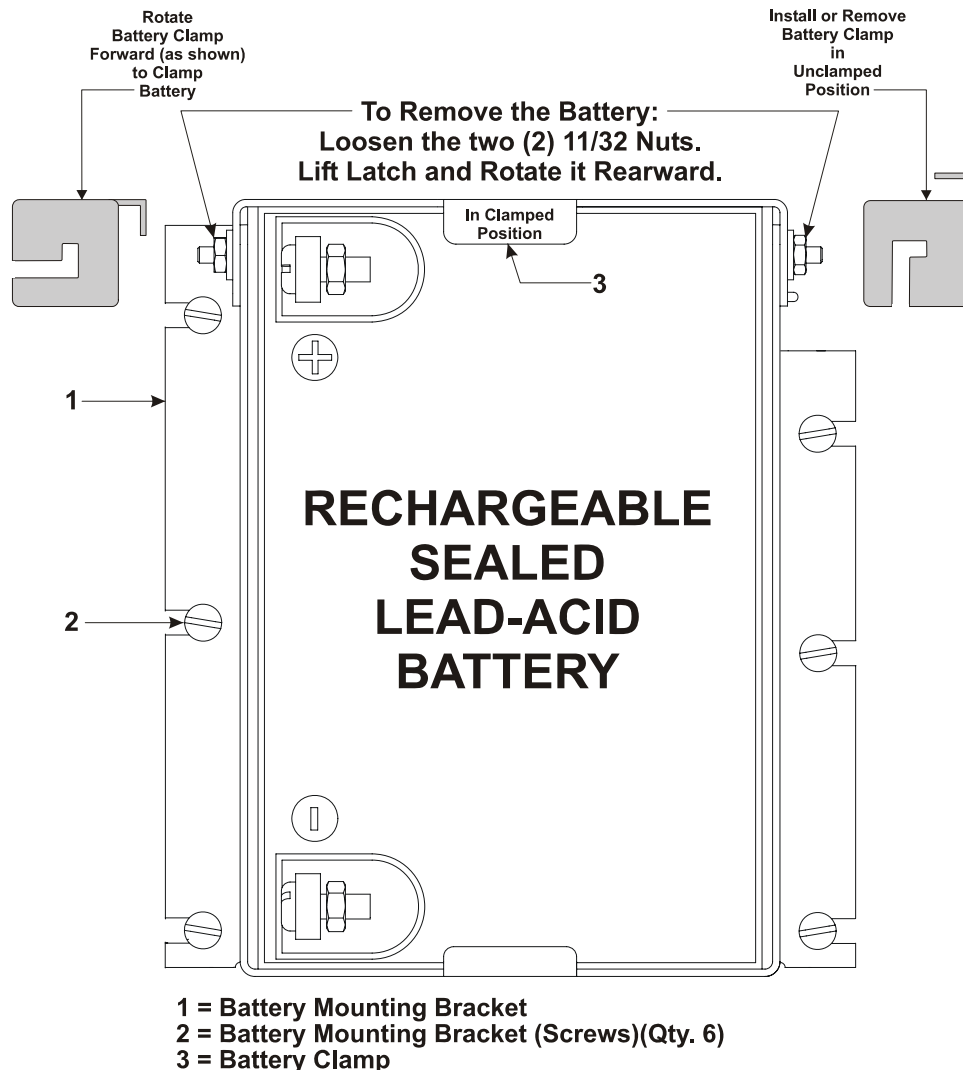

Figure 2-36 - Enclosure with Sealed Lead-acid Battery Installed
The Rechargeable Sealed Lead-acid Battery must be removed from its shipping carton and installed on its mounting bracket within the enclosure as illustrated in Figure 2-36.
3. Install the Lead-acid Battery (on end) as illustrated in Figure 2-36. **Note: Make sure the Lead-acid Battery is fully charged before installing it.**